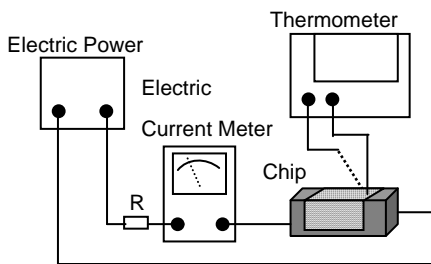

Fig. 5.3.3-1
- d. Definition of Rated Current(I_r): I_r is direct electric current as chip surface temperature rose just 20℃ against chip initial surface temperature(T_a) (see **Fig. 5.3.3-2**).